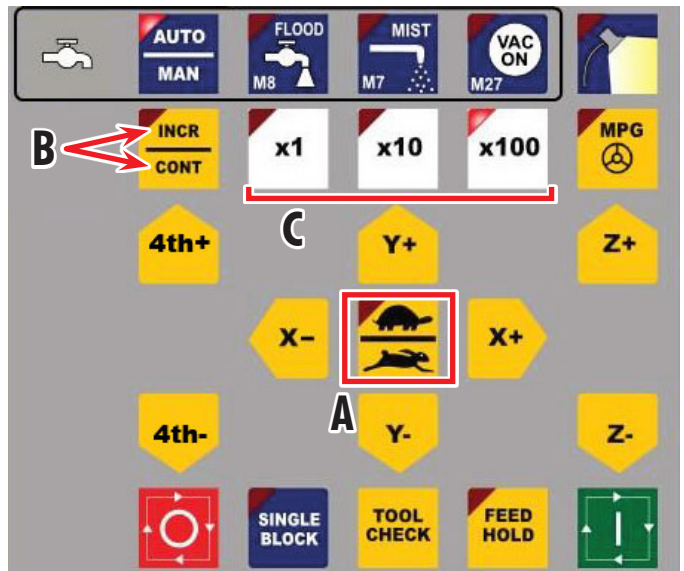

FIGURE 38—A=Jog Speed, B=Jog Mode, C=Increment Amount.
- Jog the tool over the top of the part and bring the Z-axis down until the tool is close to the top of the part (A: Jog, Rapid, Continuous). When the tool is close to the top of the part, change the Jog mode (B)
from Continuous (CONT) to Incremental (INCR) and choose an Increment amount (C) (see Figure 38).